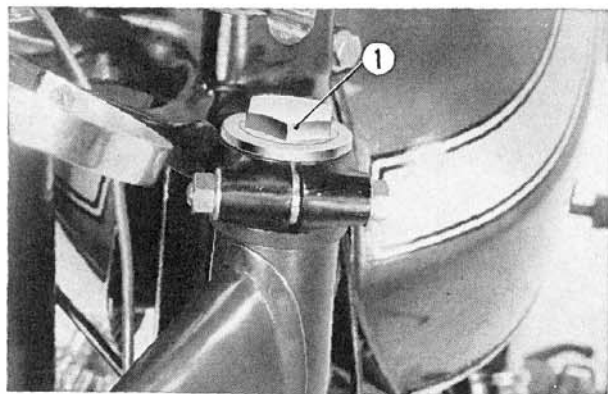

Fig. 19-17 ① Top filler plug
b. Remove the top filler plug and fill the front fork with **7.0~7.3 ozs. (220~230 cc) of premium quality of SAE 10 W-30 grade.** (Fig. 19-17)
(3) Check the following items and if there is any fault, correct before riding.